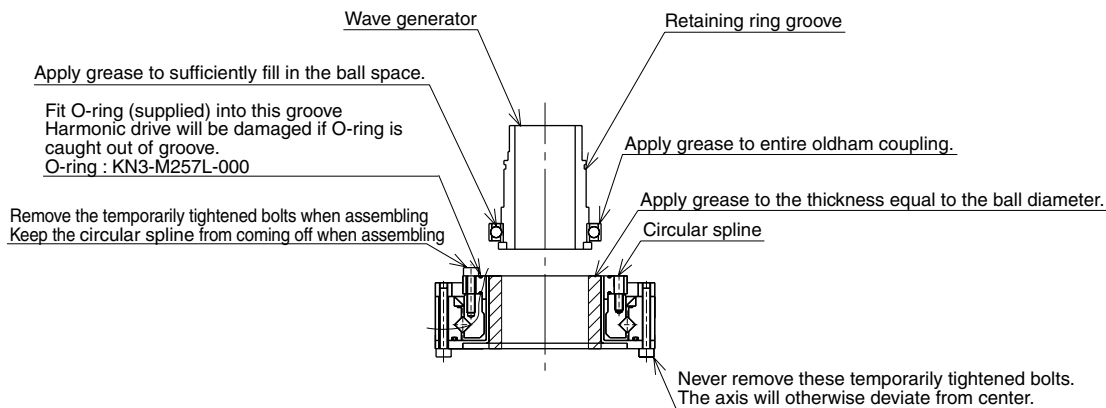

Fig. 5-33
- 13) Apply harmonic grease to the new wave generator. See Fig. 5-33 for applying grease properly.
See Fig. 5-33 for applying grease properly.
REMOVE ONLY THE FOUR BOLTS SHOWN IN FIG. 5-33 AT THIS POINT. NEVER REMOVE THE BOLTS ON THE OPPOSITE SIDE. IF THEY ARE REMOVED, THE HARMONIC DRIVE AXIS MAY DEVIATE FROM THE CENTER CAUSING A TROUBLE.
- 17) Fit an O-ring (supplied with the harmonic drive) coated with harmonic grease into the O-ring groove on the new harmonic drive. (See Fig. 5-33.) Apply small amounts of “Screw Lock” to the bolts (M3×16L, 9 pieces) and tighten them to secure the harmonic drive to the Y-axis arm from the top of the Y-axis arm. (See Fig. 5-32.)